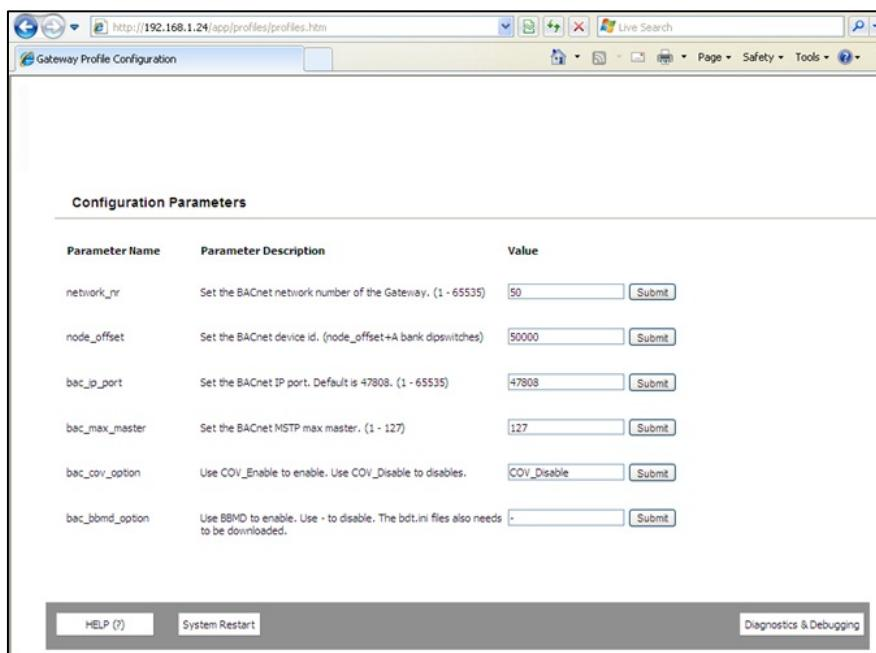

Figure 5-2: Main Landing Page for ProtoNode
- Open PC web browser and enter the default IP address of the ProtoNode 192.168.1.24/ Determine if the ProtoNode is up and communicating. Figure 5-2 shows the main landing page for the ProtoNode.